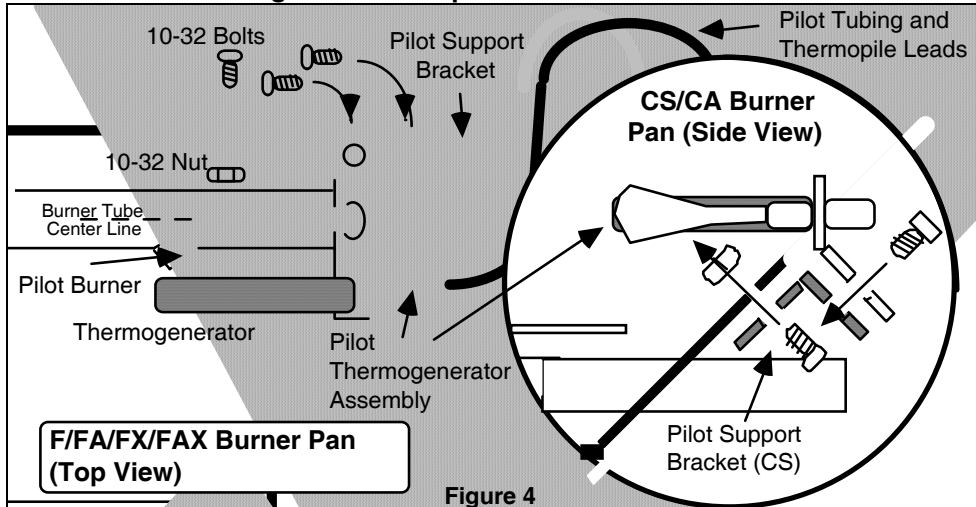

Figure 4
STEP TWO: Attach Pilot (Figure 4).
2. Insert **10-32 Bolt** through the **Pilot Support Bracket** and pre-drilled hole in back of Burner Pan (side of CS/CA pan-see "**CS/CA Burner Pan Side View**" at Figure 4). Thread **10-32 Nut** onto the **10-32 Bolt** and tighten. Ensure that **Pilot Burner** is centered over **Burner Tube**.